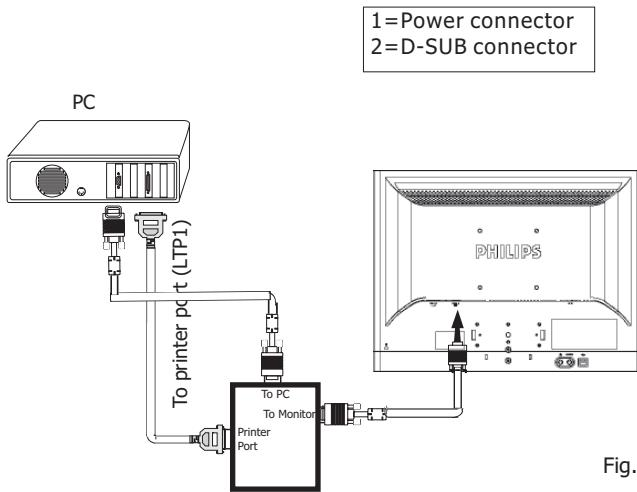

Fig. 11
Step 1: After initialize alignment box, connecting all cables and box as shown in Fig. 11
1. Click icon as shown in Fig. 11 from the tool bar to bring up the Channels "Configuration Setup" windows as shown in Fig. 12.